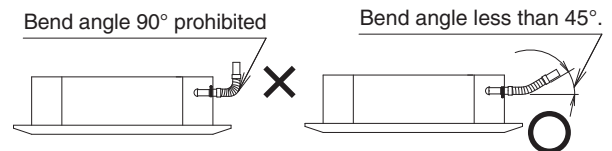

Fig. 3-93
- Do not bend the supplied drain hose 90° or more. Bend it less than 45°. (Fig. 3-93)